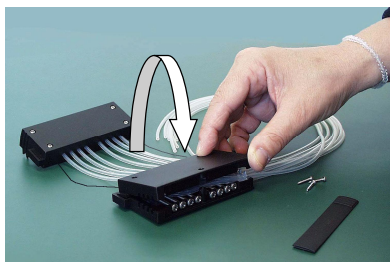

Figure 5-47. Replacing the cover of the upper part of the dispensing cassette
12. Replace the upper part cover of the dispensing cassette carefully (Figure 5-47).